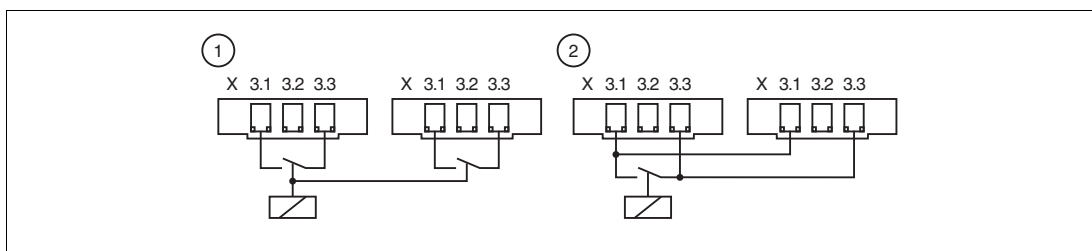

Figure 4.3 Control input X3
- X3.1 to X3.3 for external volt-free contact (contact galvanically isolated from other contacts on other backplanes. See Figure 4.3, position (1)).